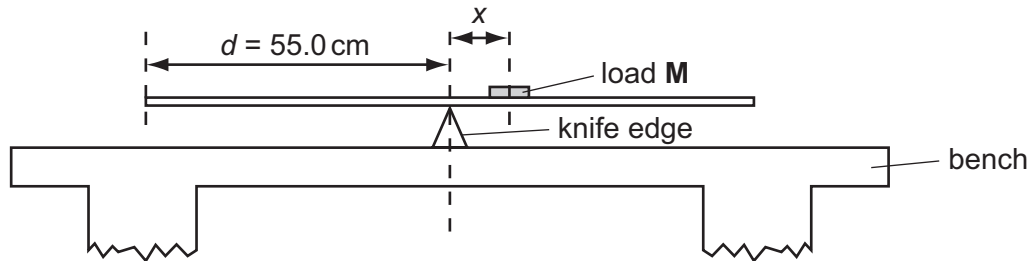

Fig. 2.1
- (a) (i) Place the knife edge directly under the 55.0 cm mark of the metre rule so that the distance $d = 55.0$ cm. Place the load **M** on the metre rule and adjust its position carefully until the rule is just balanced, as shown in Fig. 2.1.